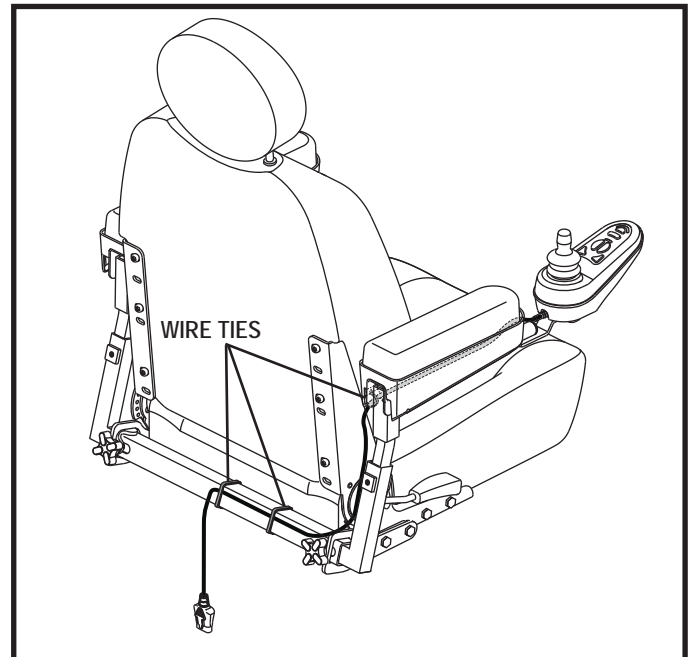

Figure 9. Controller Routed on a Contour Seat
9. Secure the controller harness to the armrest receiver with wire ties. **See figure 9.**